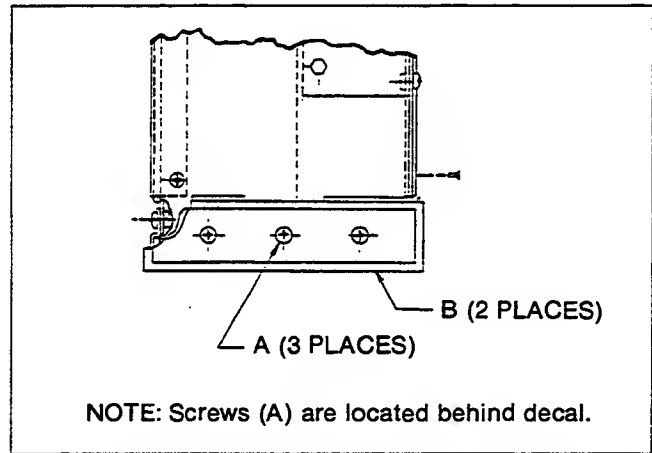

Figure 3-17. Detail of Rear Corner Lug
6. Referring to Figure 3-17, remove the three screws (A) hidden behind each plastic facing on each of the two rear-corner lugs (B).